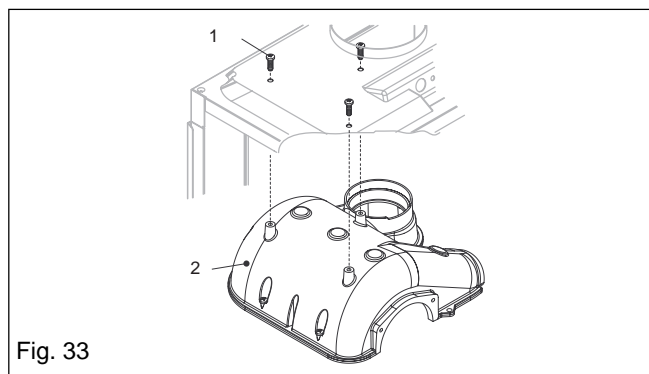

Fig. 33
Fig. 33: unscrew and remove the 3 screws (1) that secure the collector to the air chamber and disconnect the collector (2) from the flue connection. Replace in the reverse order ensuring all seals are intact and located correctly.